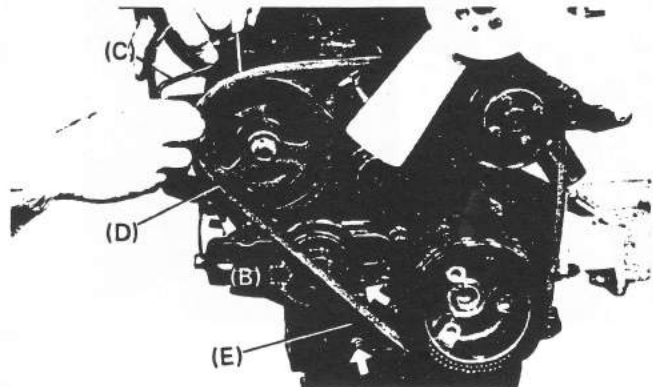

Fig. 33
- b. Loosen the adjusting bolt and move the idler pulley (B) in the direction of the arrow shown in Fig. 33.